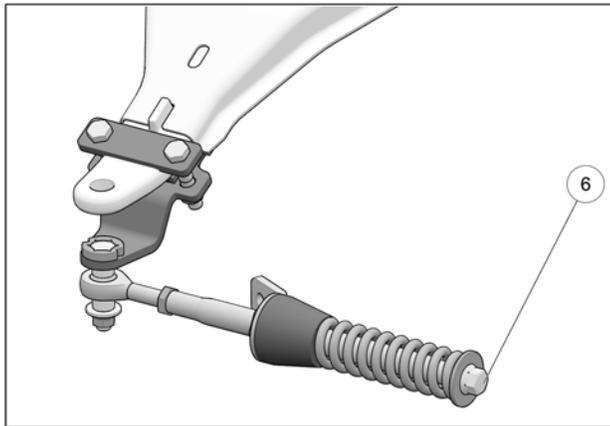

Fig. 28
18. Verify that spring assembly bolt (6) is tightened to the recommended torque specification: 75 N•m [55 lb•ft]. Refer to Fig. 28